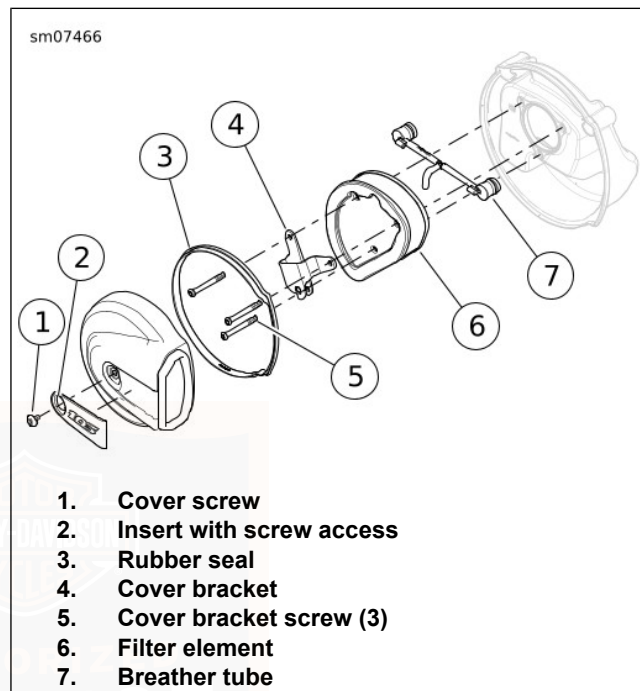

Figure 63. Air Cleaner Assembly
1. See Figure 63. Remove screw and air cleaner cover with rubber seal.
1. See Figure 63. Install breather tube onto breather bolts.